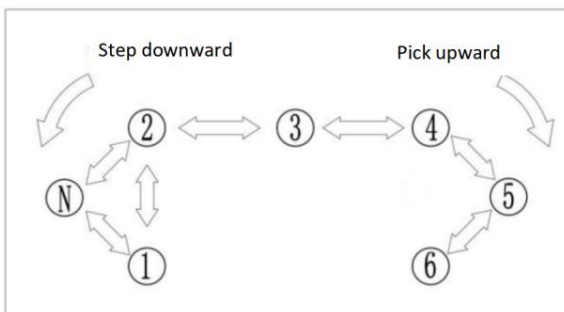
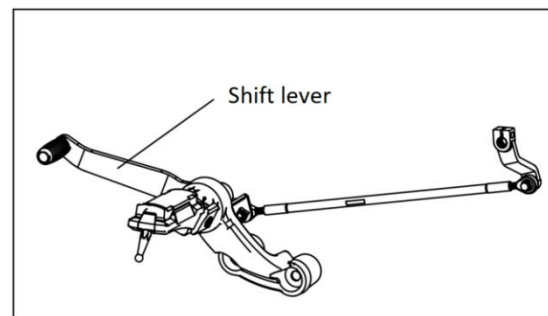

Figure 14
Figure 15
5.4.1 Shifting operation (Figure 14, Figure 15)